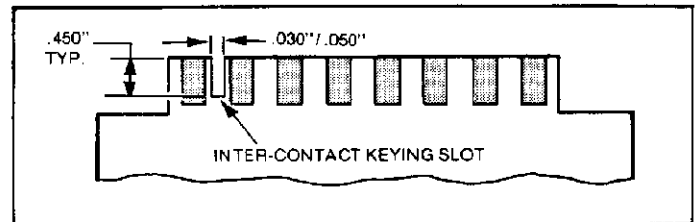

Figure 2
- (b) Cut slot to correct dimensions, as shown in Figure 2.